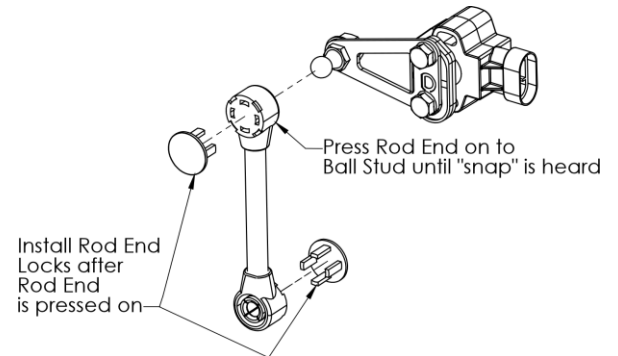

Figure 15: Height Sensor Plastic Linkage End Installation
4. Snap the Linkage Assemblies to the ball studs attached to the lower control arms and to the ball studs on the Height Sensor arms. Refer to **Figure 15** or **Figure 16** for detail of linkage.